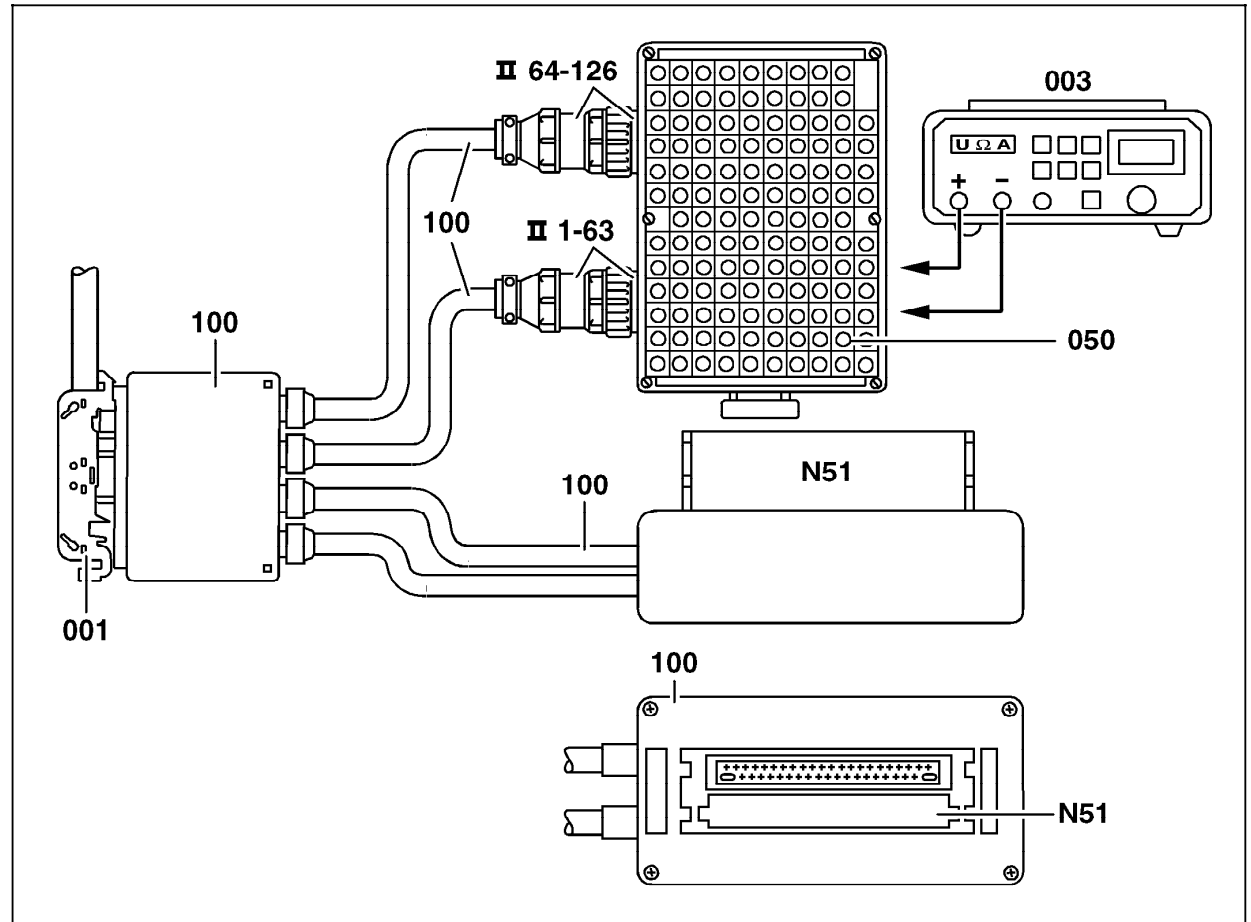

Figure 2
5. Connect socket box and test cables (Figure 2).